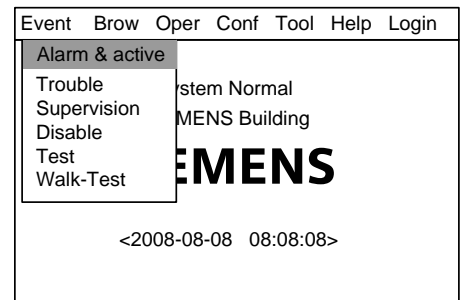

Fig.35-1
1. Press “Menu” to browse the main menu (Fig. 35-1)